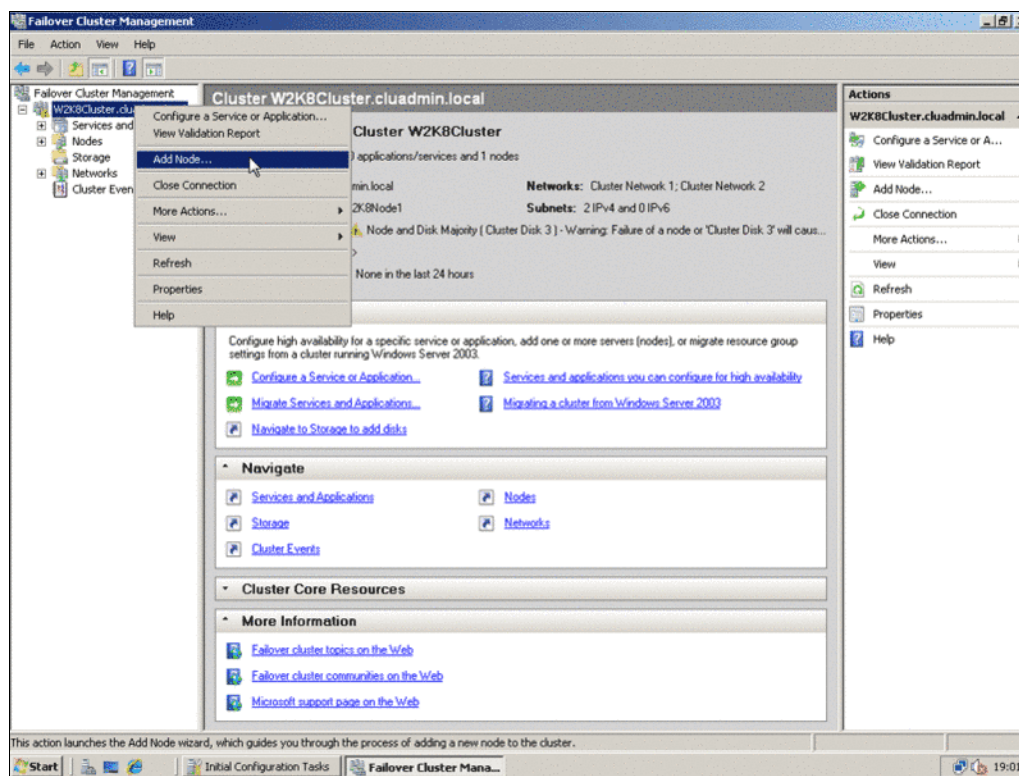

Figure 19-27 Add the Second Node
8. Now add the second node as shown in Figure 19-27. Only then we will have formed true redundancy and a valid cluster.